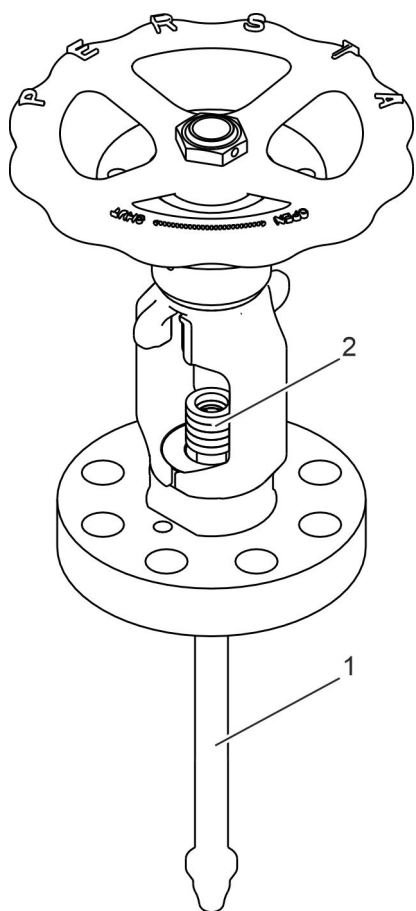

Fig. 28: Screwing in the stem
18. ▶ Insert the stem (Fig. 28/1) into the bonnet.
19. ▶ Insert new stuffing box elements (Fig. 28/2) into the emptied and cleaned packing chamber.